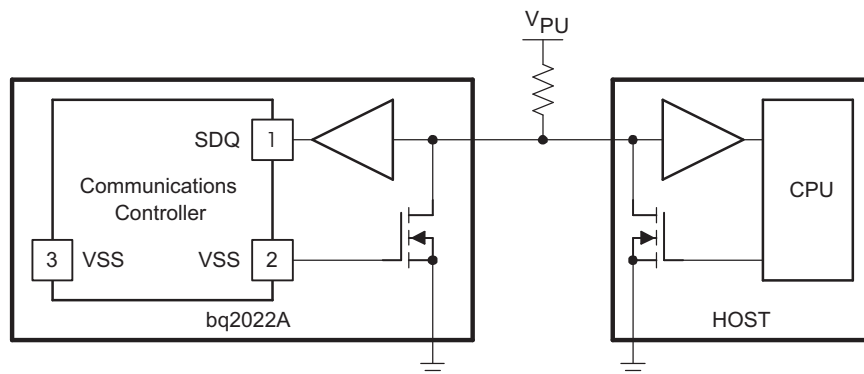

Figure 1. Typical Applications Circuit
(1) 5-kΩ series resistor between SDQ pin and V_{PU}. (See Figure 1)
(2) t_{WDH} must be less than t_c to account for recovery.
Because the drive output of the bq2022A is an open-drain, N-channel MOSFET, the host must provide a source current or a 5-kΩ external pullup, as shown in the typical application circuit in Figure 1.